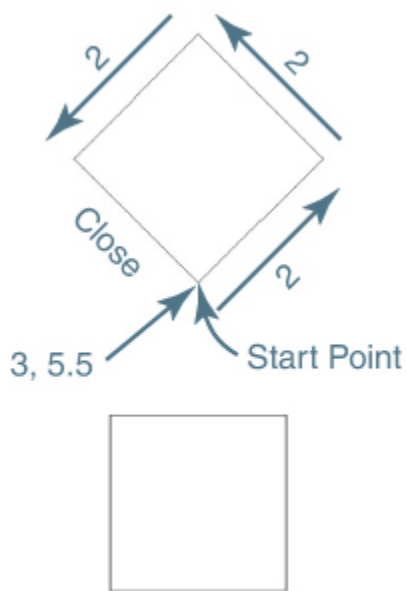

Figure 5-13
- 15** Save your drawing. Your drawing should look like Figure 5-13.